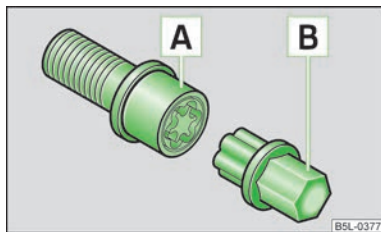

Fig. 151
- Insert the adapter **B** » Fig. 151 with its toothed side fully into the inner tooth- ing of the safety wheel bolt **A** until the stop so that only the outer hexagon is jutting out.